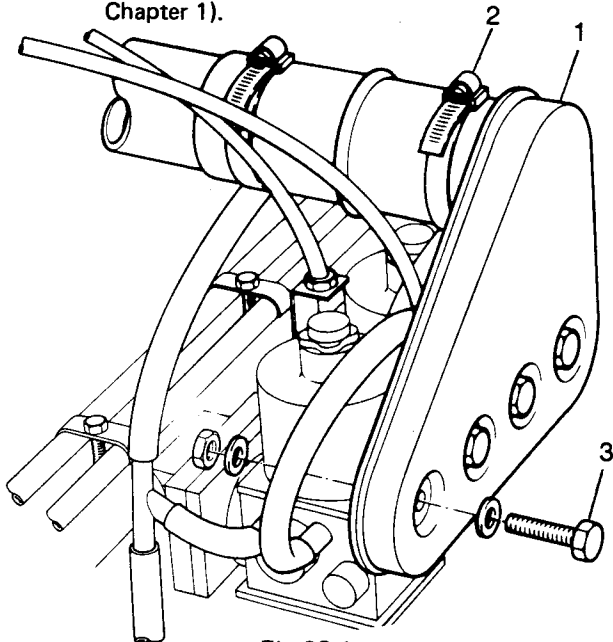

Fig C3.1
(2) Refer to Fig C3.1. Remove the air intake box (1) by disconnecting the air inlet hose (2) and removing the four bolts (3) holding the box to the carburetters. (The bolts have loose nuts and washers behind the box).
(3) Check the throttle for correct operation and free movement with no signs of sticking.